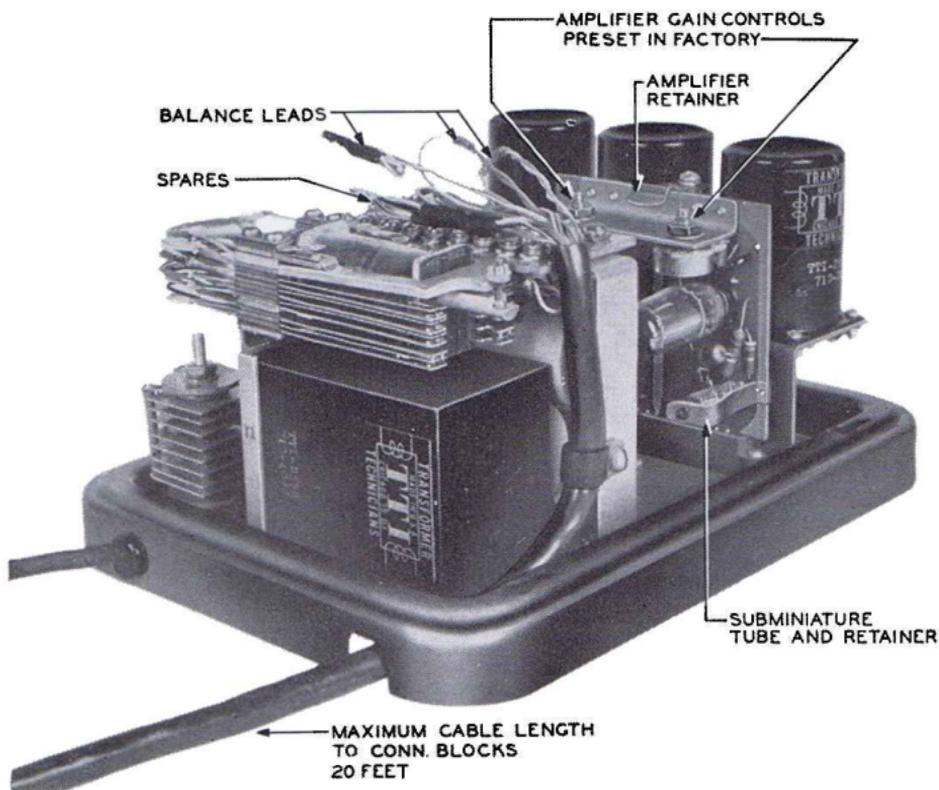

Fig. 4—KS-14964 Control Unit (Open View)
2.10 The KS-14990 amplifier employed in the KS-14964 control unit furnishes both the receive and transmit amplification for the distant talking set. Both amplifier circuits are mounted on a single plug-in type, plastic card which fits into an elongated socket in the base of the control unit, see Figs. 4 and 5.
4.12 Make connections on the terminal strips in the control unit as covered in Fig. 6. Leave sufficient slack to enable movement of cable conductors to different terminals. Fig. 4 shows a method of disposing of balance leads, spare conductors, and the forming of cable conductors on the terminal strips.
- (1) Check to see whether the control unit is connected by cord to the power supply outlet. The distant talking set derives its power from the subscriber's ac power supply and, therefore, will not operate during power failures. However, regular telephone service is not so affected and the telephone set may be used in the normal manner.
- (2) Press the ON button in the 592-type telephone set. If the pilot lamp fails to light, test the power supply outlet with a neon voltage tester or equivalent.
- (3) Take appropriate steps to have the subscriber arrange for power restoration in the event of a power off condition.
- (4) When commercial power is entering the control unit and amplification seems to be deficient in either or both receiver and transmitter circuits, the complete KS-14990 amplifier should be replaced with a serviceable one to give a quick indication that the trouble is in the amplifier.
- (5) **Disconnect the power supply to the control unit each time the amplifier or its tubes are pulled out of the sockets.** The amplifier is held in place by a retainer as shown in Fig. 4, which must be removed to free the amplifier. **Extreme care must be exercised in removing the KS-14990 amplifier from its socket in the base of the control unit.** Since the amplifier is mounted on a plastic card, it should not be bent in its socket because bending may injure the terminal end of the card or the socket. It is recommended that the amplifier be grasped by fingers of both hands, and, if necessary, rocked slightly from side to side while exerting upward pull.